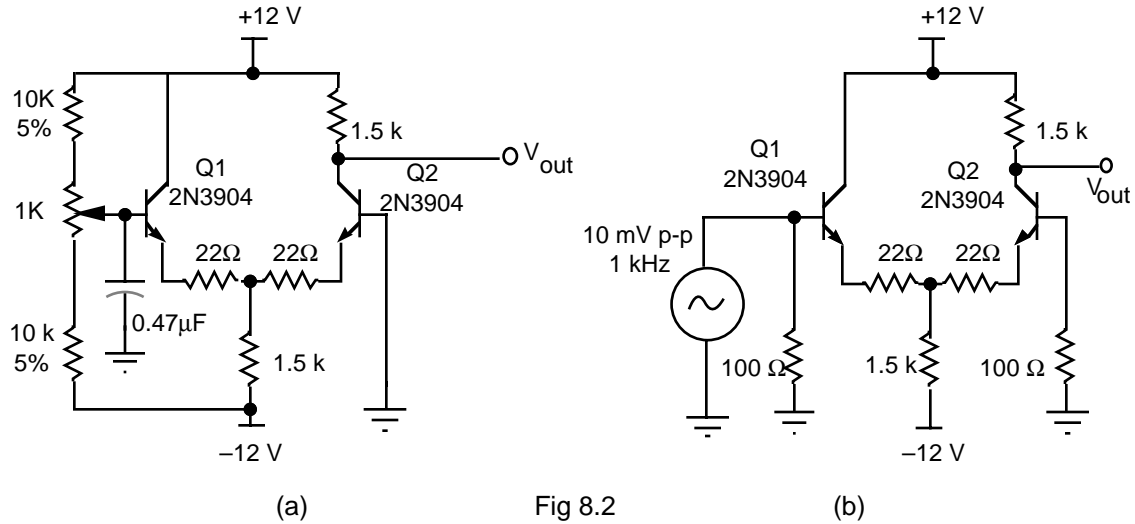

Fig 8.2
b) In Fig. 8.2(a), if you ground the base of transistor  $Q_1$ , the transistors are identical and the components have the values shown, then the output voltage will be  $+6.35$  V. For this experiment, any deviation from  $+6.35$  V will be called  $V_{out(off)}$ . Connect the circuit of Fig 8.2(a). Jumper the base of  $Q_1$  to ground and measure  $V_{out(off)}$ . Take off the jumper and connect the potentiometer voltage-divider and adjust it until the output voltage is  $+6.35$  V. Record the base voltage of  $Q_1$  as  $V_{in(off)}$ .
c) Calculate the expected values of the differential and common-mode gains and the Common Mode Rejection Ratio. Measure the differential and common-mode gains,  $A$  and  $A_{cm}$ , using the connection of Fig. 8.2(b). Use a frequency of 1 kHz and a signal level of around 10 mV p-p.